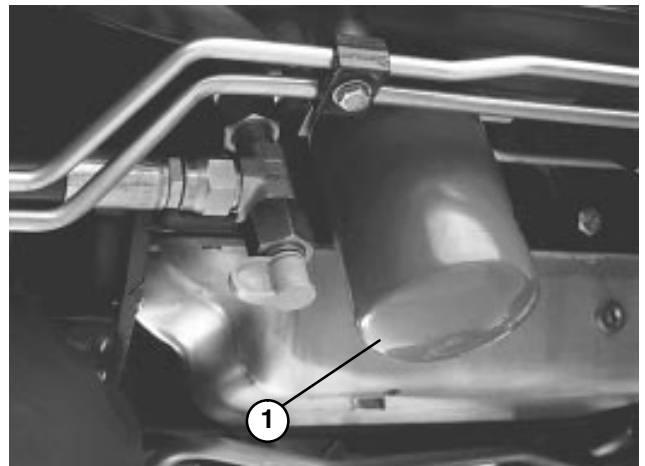

Figure 49
REPLACING HYDRAULIC FILTER (Fig. 49)
2. Clean area around filter mounting area (Fig. 49). Place drain pan under filter and remove filter.